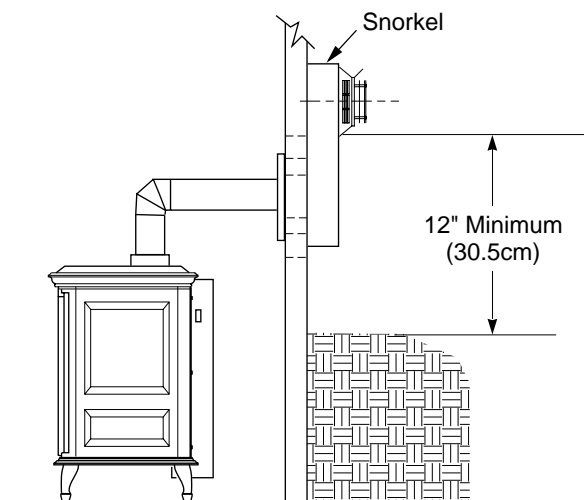
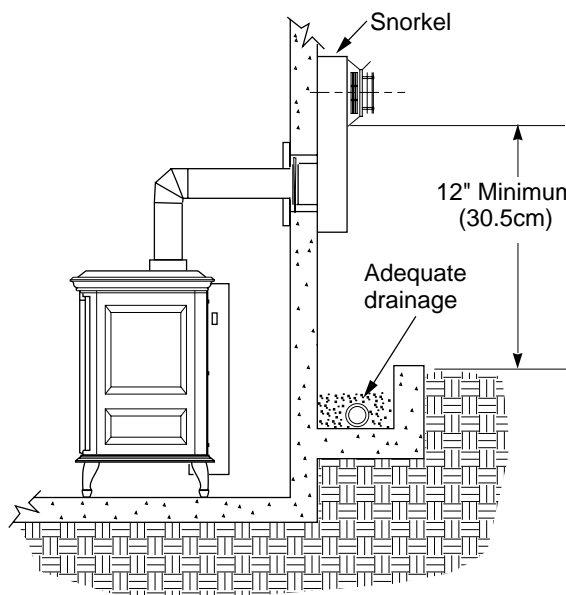
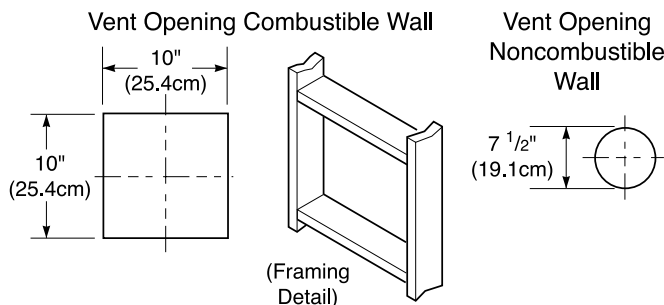
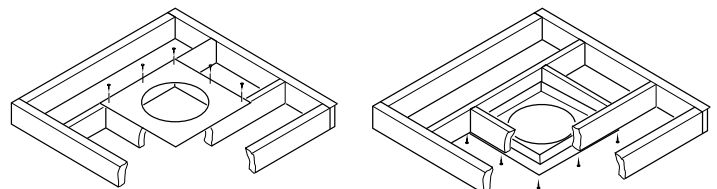

Figure 24 - Snorkel Termination
Figure 25 - Snorkel Termination with Drainage Pipe
Figure 27 - Vent Opening Requirements
Figure 35 - Installing Firestop
For two-story applications, firestops are required at each floor level (see Figure 35, page 16). If an offset is needed in the attic, additional pipe and elbows will be required.
Snorkel terminations are available for terminations requiring a vertical rise on the exterior of the building (see Figures 24 and 25). Snorkel kit VKS-47-K is also available (see page 19). Follow the same installation procedures used for standard horizontal termination with the exception of the external wall firestop. The snorkel termination does not require the use of the external wall firestop. If installing the snorkel termination below grade (basement applications), you must provide proper drainage to prevent water from entering the snorkel termination (see Figure 25). Do not back fill around the snorkel termination.
- Attach vent pipe assembly to the burner system. Set stove in front of its permanent location to insure minimum clearances. Mark the wall for a 10" (25.4 cm) square hole (for noncombustible material such as masonry block or concrete, a 7 1/2" [19.1 cm] diameter hole is acceptable). See Figure 25. The center of the hole should line up with the center-line of the horizontal rigid vent pipe. Cut a 10" x 10" (25.4 cm x 25.4 cm) square hole through combustible exterior wall (7 1/2" [19.1 cm] diameter hole if noncombustible). Frame as necessary (see Figure 27).
1. Cut a 10" (25.4 cm) square hole in the ceiling using the locating hole as a center point. The opening should be framed to 10" x 10" (25.4 cm x 25.4 cm) inside dimensions, as shown in Figure 27 on page 14 using framing lumber the same size as the ceiling joists. If the area above the ceiling is an insulated ceiling or a room, nail firestop from the top side. This prevents loose insulation from falling into the required clearance space. Otherwise, install firestop below the framed hole. The firestop should be installed with no less than three nails per side (see Figure 35).
3. Cut a hole in the roof using the locating hole as a center point. (Cover any exposed open vent pipes before cutting hole in roof.) The 10" x 10" (25.4 cm x 25.4 cm) hole must be measured on the horizontal; actual length may be larger depending on the pitch of the roof. There must be a 1" (2.54 cm) clearance from the vent pipe to combustible materials. Frame the opening as shown in Figure 27 on page 14.